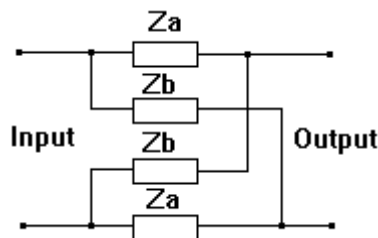
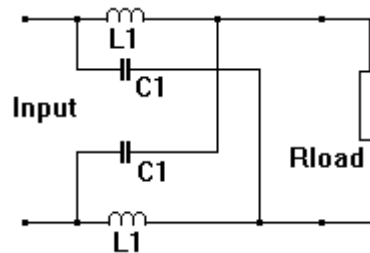
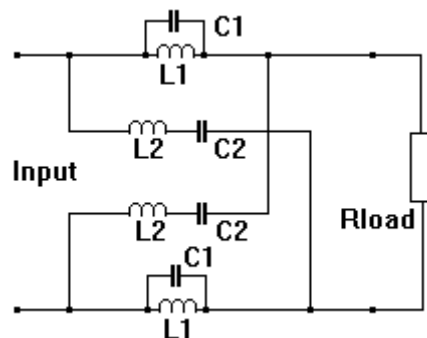
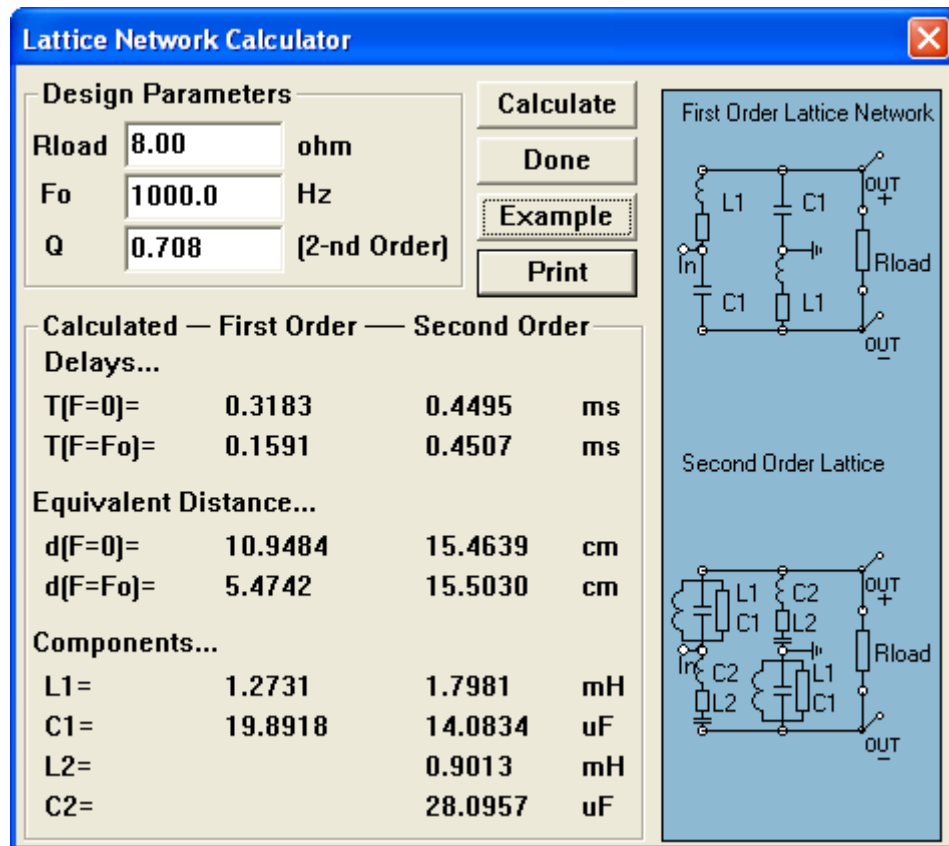

Fig 8.29 Lattice Network (Time Delay Filter).
Fig 8.30 First order Lattice Network.
Fig 8.31 Second order Lattice Network
Figure 8.32. Lattice network calculator.
Compensation networks considered in this section have constant amplitude response and variable phase and group delay responses. They are commonly termed "all-pass" filters or Lattice Filters. One method of passively realizing all-pass function uses symmetrical lattices. A very useful representative of this family of filters is shown on Fig 8.29. It depicts a general topology of the symmetrical lattice filter. Please note, that both load terminals are floating - they are not connected to the ground terminal. A practical realization of the first order lattice network is given on Fig 8.30 and second order lattice network is shown on Fig 8.31.
SoundEasy offers a built-in Lattice Network Calculator (LNC) - see Fig 8.32. This simple LNC allows the user to estimate attainable time delay offered by the first and second order lattices at a desired frequency ( $F_o$ ), for a given load resistance ( $R_{load}$ ). The LNC also calculates the L and C components of the first and second order lattice networks, such as the one shown on Fig 8.30 and Fig 8.31. The resulting components will be given for a constant resistance lattice. Larger delays can be obtained by cascading first or second order networks, so that their individual time delays can be summed. Time delay introduced by the equalizer (Lattice Network) will be added to the existing (if any) delay in the circuit. The first order all-pass network introduces maximum delay at  $F_o = 0.0$  Hz and the delay rolls-off with frequency. For the second order network, there are two parameters, that can be manipulated by the designer in order to obtain the required total delay: (1) Q-factor and (2)  $F_o$ . For Q-factors less than 0.6, the delay, introduced by the second order all-pass network tapers off with frequency. For Q-factors greater than 1.0, the second order lattice network allows the designer to create concentration of delay around a frequency, at which there is a 180 deg phase shift ( $F_o$ ). For Q-factors greater than 2, the delay exhibits a pronounced peak around the  $F_o$ , with slopes of -12dB/oct. The LNC is activated from the main menu by selecting (1) "Crossover Tools" and then (2) "Lattice Network" options. The first order lattice network requires load resistance ( $R_{load}$ ) and "cut-off" frequency to be entered on the calculator's data entry fields. The second order network requires additional Q-factor to be keyed-in.